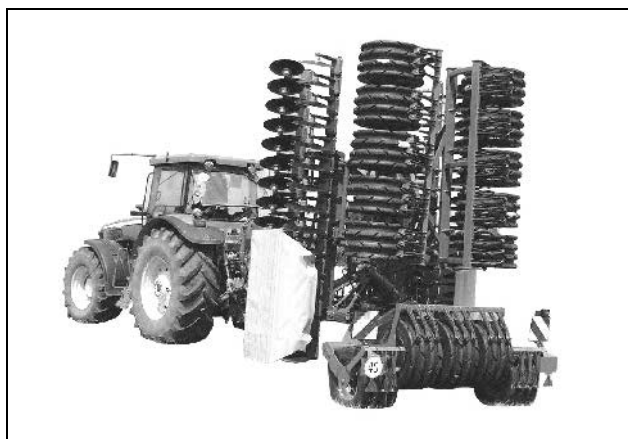

Fig. 26
- **Machine in road transport position (Fig. 26)**